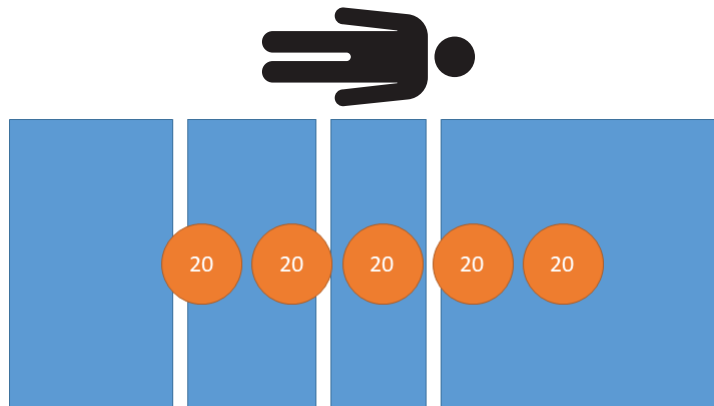

Figure 20 – Weigh performance test - 100 kg
3. Using calibrated weights, place 100 kg on the product (Figure 20).
9. Using calibrated weights, place 100 kg on the product (Figure 20).